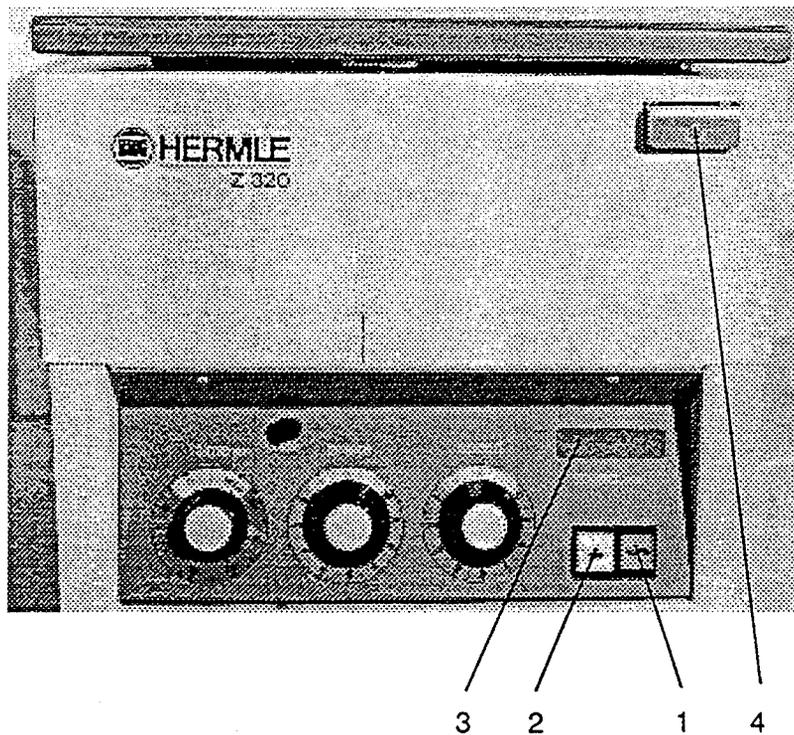

Figure 14
The power supply switch (1) (green light), switches the centrifuge on and the control lamp of the lid release (2), as well as the digital indication of the speed (3) will light. The power switch (1) should always be the first to be switched on and the last to be switched off, (see figure 14).